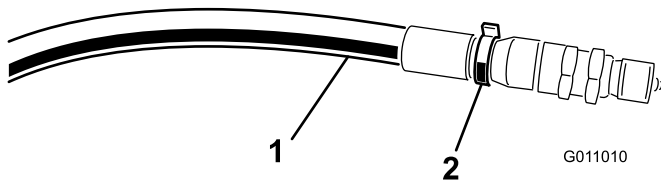

Figure 14
**Note:** Mark the high-pressure hose with a cable tie to identify the correct hose installation (Figure 14).